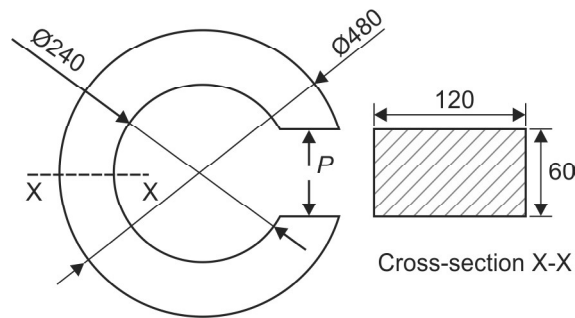

Fig. M1.6
9. Determine a safe value of load P for a machine element loaded as shown in **Fig. M1.6**, limiting the maximum normal stress induced on the cross-section X-X to 120 MPa. **(10 Marks)**